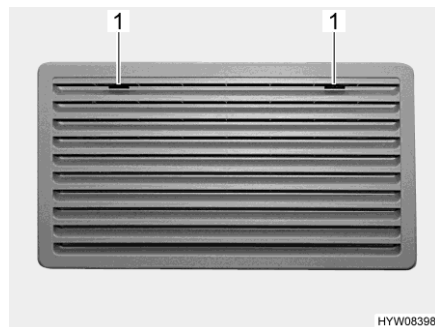
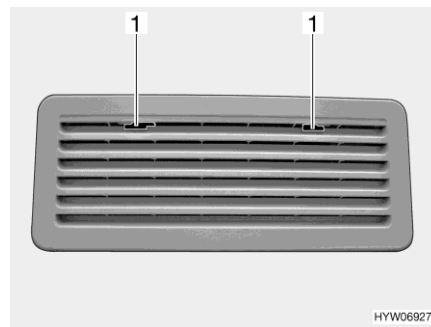

Fig. 237 Refrigerator ventilation grill (Thetford large)
Fig. 238 Refrigerator ventilation grill (Thetford small)
- Move the locking device (Fig. 237,1 or Fig. 238,1) to the middle.